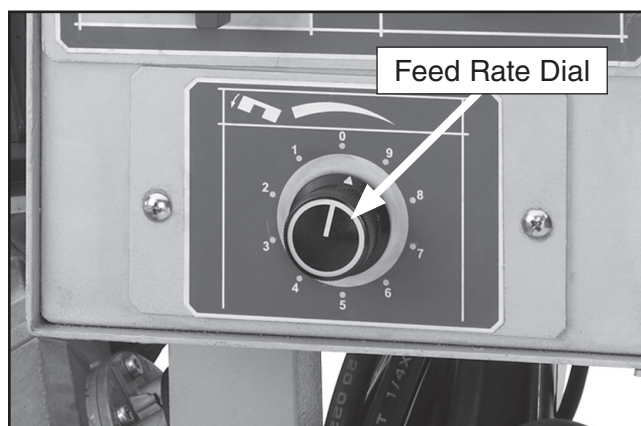

Figure 36. Feed rate dial.
2. Set the feed rate dial () to the desired feed rate; 0 (fully clockwise) is the slowest and 9 (fully counterclockwise) is the fastest (**Figure 36**).